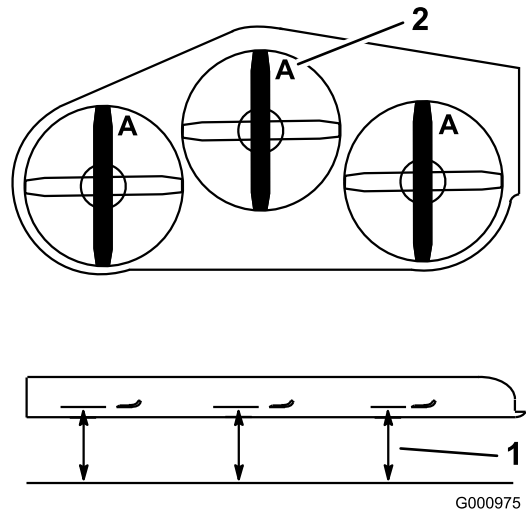

Figure 92
3. Rotate the blades until the ends face forward and backward (Figure 92).
4. Measure from a level surface to the cutting edge, position A, of the blades (Figure 92).